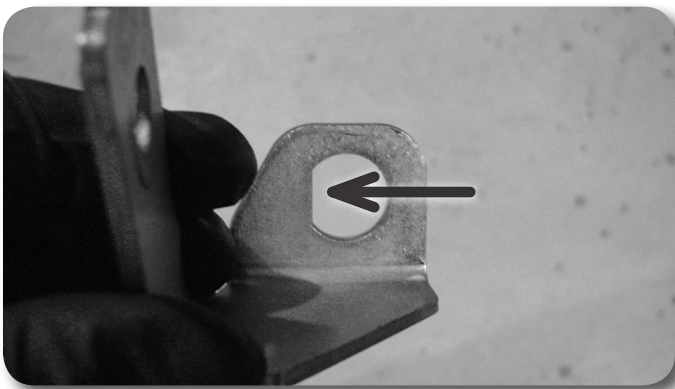
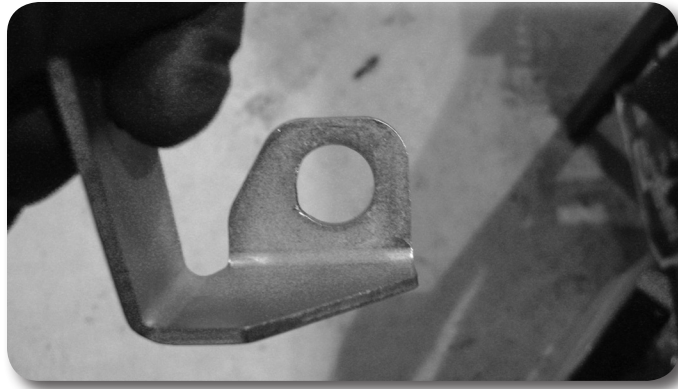
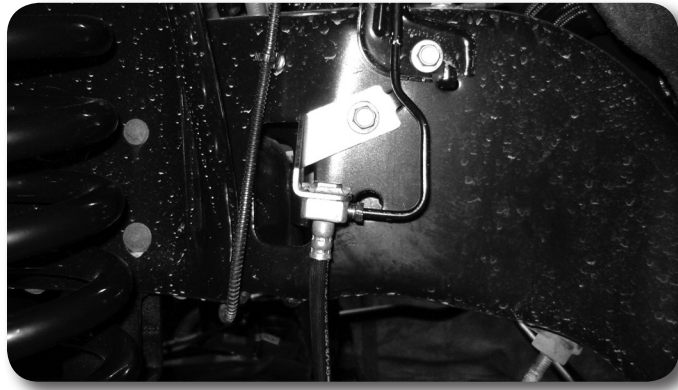

Figure 18A
Figure 18B
Figure 18C
36. Remove the factory front brake line brackets from the frame. The brackets have a squared edge in the brake line mounting hole. **Figure 18A** Using a file or rotary grinder, remove the square edge to form a complete round hole. **Figure 18B** Reattach the brackets to the frame tighten securely with the factory hardware. Install the brake line junction in the bracket from the bottom and fasten with the factory retaining clip. **Figure 18C**